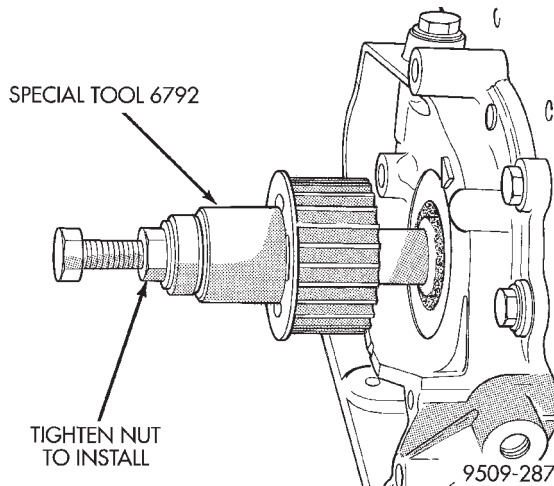

Fig. 86 Crankshaft Sprocket—Installation
(7) Install crankshaft sprocket, using Special Tool 6792 (Fig. 86).